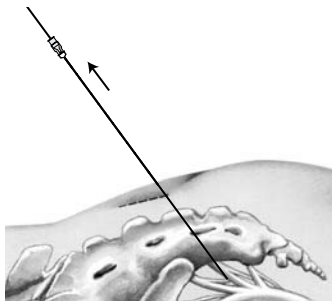

Figure 4. Remove foramen needle.
2. Holding the proximal portion of the directional guide in place, gently remove the foramen needle from the patient and from the directional guide (Figure 4).